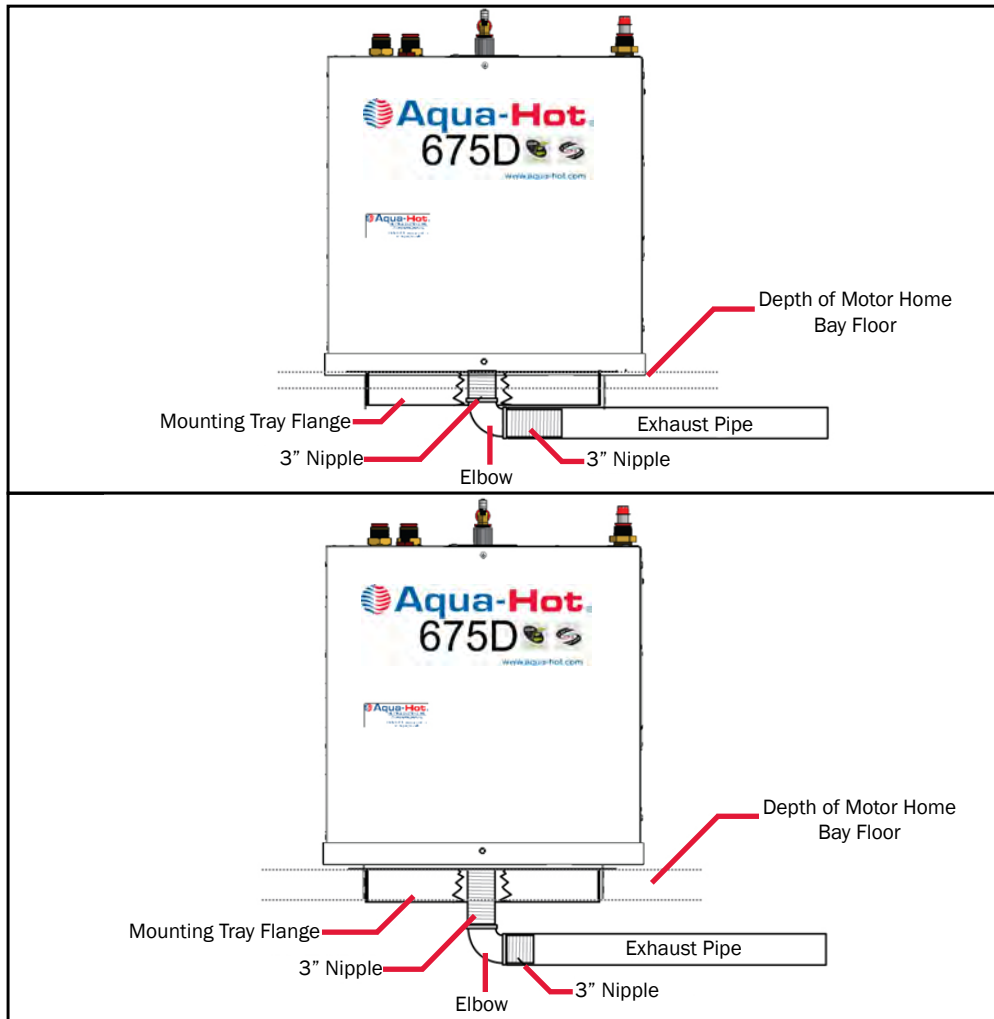

Figure 19
- The Aqua-Hot is supplied with a 3 inch and 4 inch black pipe nipple (1.5 inch diameter) along with a 1.5 inch exhaust elbow. Reference Figure 18. These three exhaust system components MUST BE utilized with all product installations. Be sure to reference Figure 19 and 20 to determine which exhaust nipple should be connected directly to the Aqua-Hot's exhaust port (the 3 inch of the 4 inch black pipe nipple).